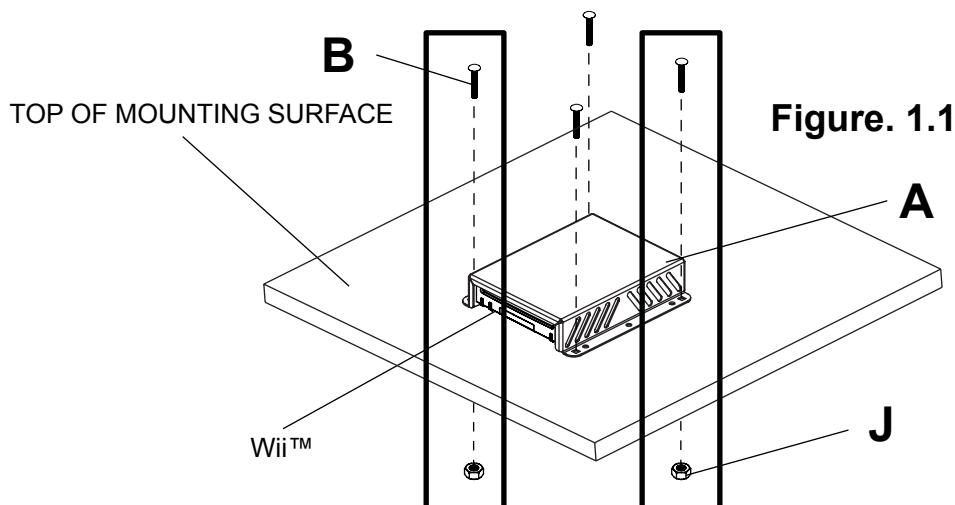

Figure. 1.1
1 Place lock down plate (A) onto mounting surface as a template. Level, and mark the center of four rectangular mounting holes. Drill four 5/16" (8 mm) dia. holes through desktop mounting surface. Secure using four carriage bolts (B) through lock down plate (A) and mounting surface as shown in figure 1.1.
Secure two 1/4-20 x 1 3/4" carriage bolts (B) using two 1/4-20 nylock nuts (J) in corners as shown in figure 1.1. Using remaining 1/4-20 x 1 3/4" carriage bolts (B), hand tighten slope nut (F) through 1/4-20 x 1 3/4" carriage bolt (B) until snug against bottom of desktop surface as shown in figure detail 1 Thread another slope nut (F) upside-down, about two turns from first slope nut (F) as shown in detail 2. Insert a open box wrench between both slope nuts (F) and tighten as shown in detail 3.